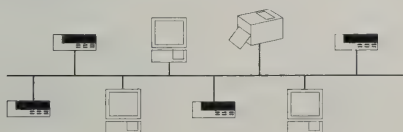

Fig. 2
**Or, add NetDAQ units directly to your company's network.** Sharing the network cabling and hardware that's already installed saves you time and expense. And, if you wish, all the users on your network have an easy way to access the data you're collecting (see fig. 2).